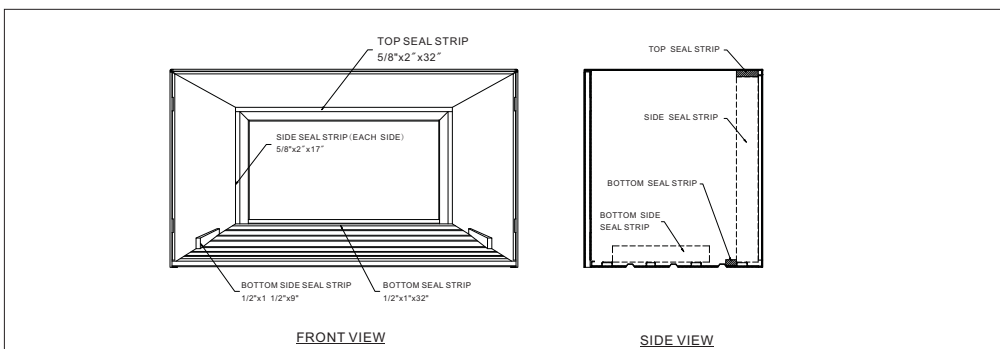

Fig.03
- f. Remove the old weather seals and stick the new ones as per Fig.03